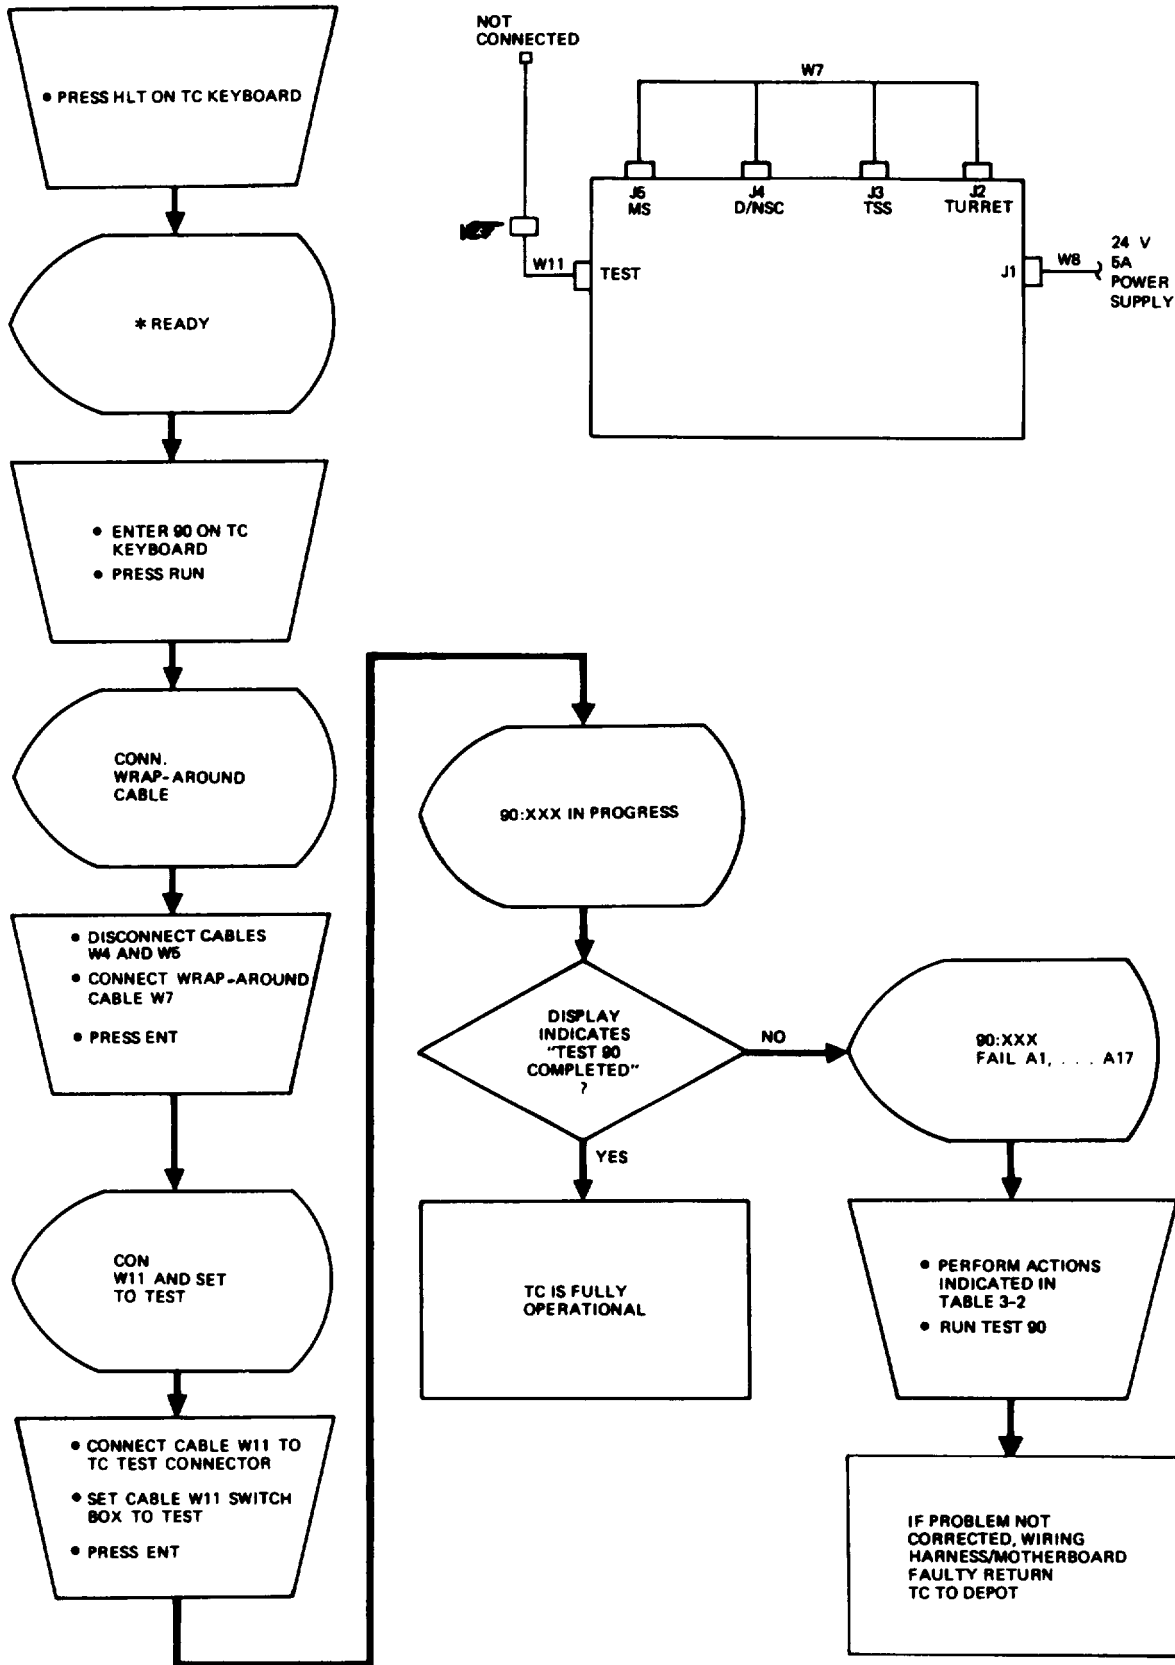

Figure 3-9. Test 90 TC Fault Isolation.
b. Test 90 Operation. The test 90 TC fault isolation (figure 3-9) procedure is used to check out all signal paths, stimuli generation, and measurement accuracy within the TC. The test consists of two sections. The first section is the first 30 steps of test 00 (self-test) in a stop-on-fail format. The second part is a continuity check of switching circuit paths within the TC, also in a stop-on-fail format.
(1) To activate test 90, enter 90 on the TC keyboard and press RUN. The TC display will indicate CONN. WRAP-AROUND CABLE. After connecting the wrap-around cable, press ENT. TC display indicates CON WI 1 AND SET TO TEST. After